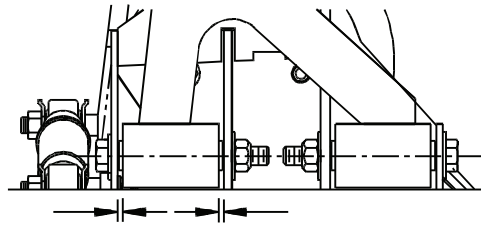

Figure 8 - Upper Control Arm Bushing Clearances
1. Check clearance between each control arm and subframe bushing mount. (See Figures 8 & 9). Look for contact pattern as evidence of bushing wear. Replace worn bushings in both control arm housings as needed.